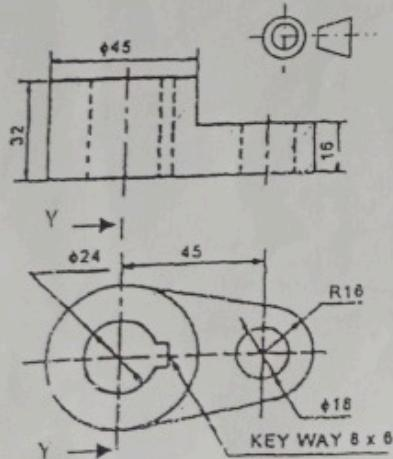

Figure 3
4. a. Copy the views in Figure 3 and draw section Y-Y
b. Make an oblique drawing of the views in Figure 3.